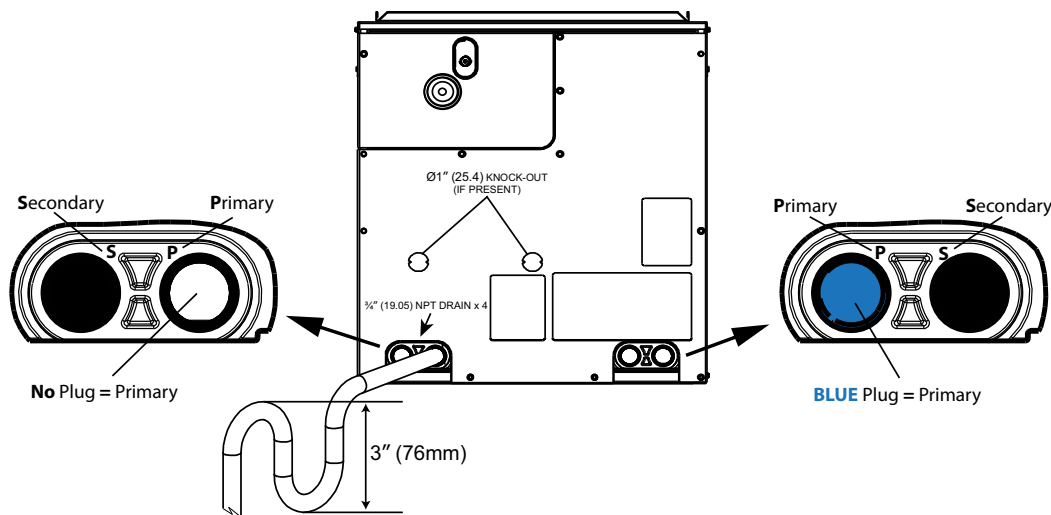

Fig. 9 – Condensate Trap and Drain
- Make trap at least 3 inches (76 mm) deep and no higher than the bottom of unit condensate drain opening (Fig. 9).